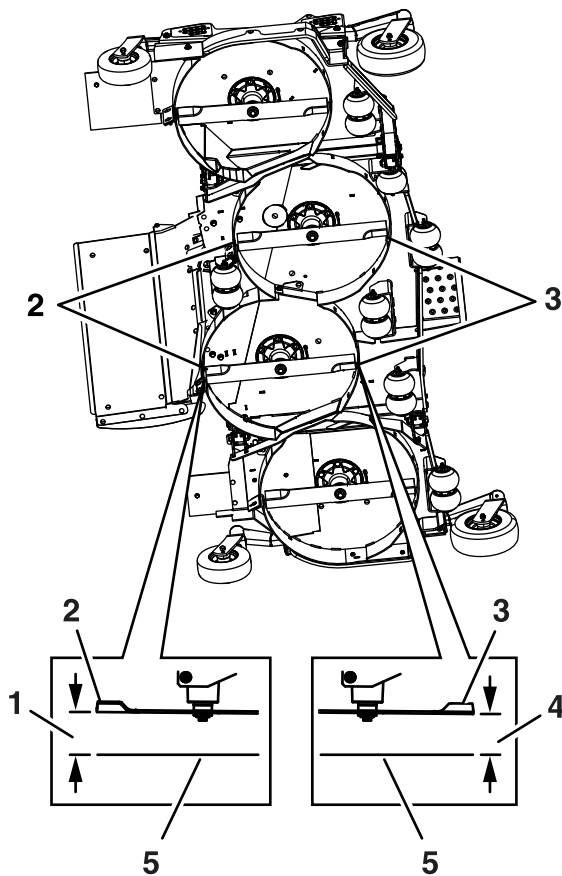

Figure 71
10. Measure from the level surface to the front tip of the left and right center deck blades (Figure 71). The measurement should read 102 mm (4 inches).